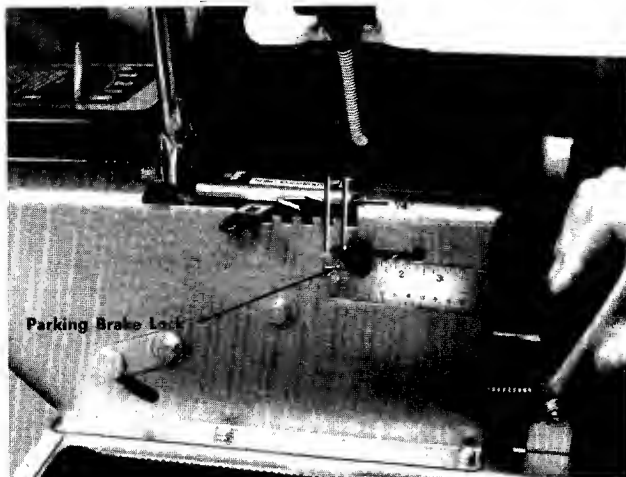

FIGURE 26. PARKING BRAKE LOCK
2. If adjustment is correct, parking brake lock will have moved approximately $\frac{1}{4}$ ". See figure 26.